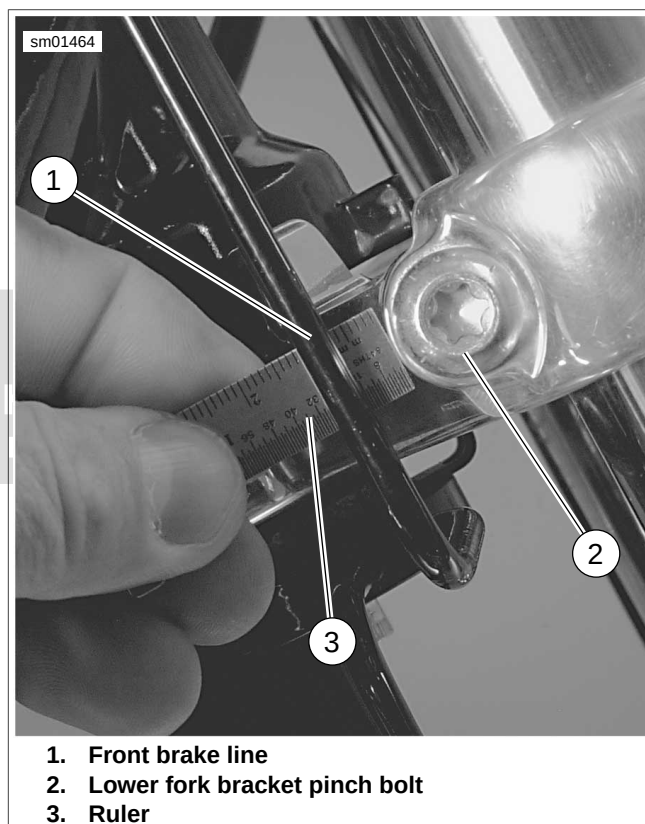

Figure 2-150. Measuring Front Brake Line Clearance
- Single front disc models: See Figure 2-150. Measure distance between front brake line metal tubing and lower fork bracket adjacent to pinch bolt. Move brake line assembly forward or back until there is a 1/4 in. (6.35 mm) gap between brake line and lower fork bracket.